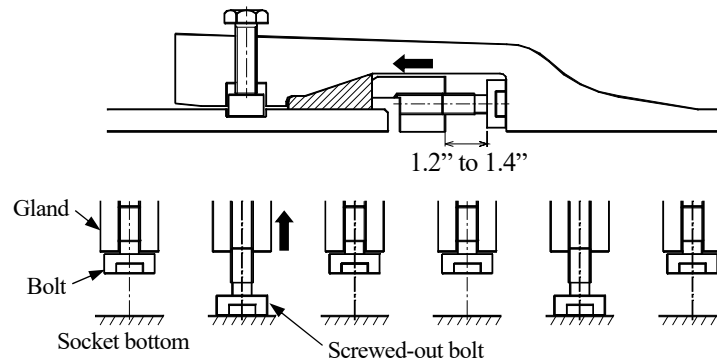

Figure 14 Screwed-out bolt
1) Push the rubber gasket with gland by screwing out the bolt with spanner to 1.2” to 1.4” from the gland every three bolts (see Figure 14).